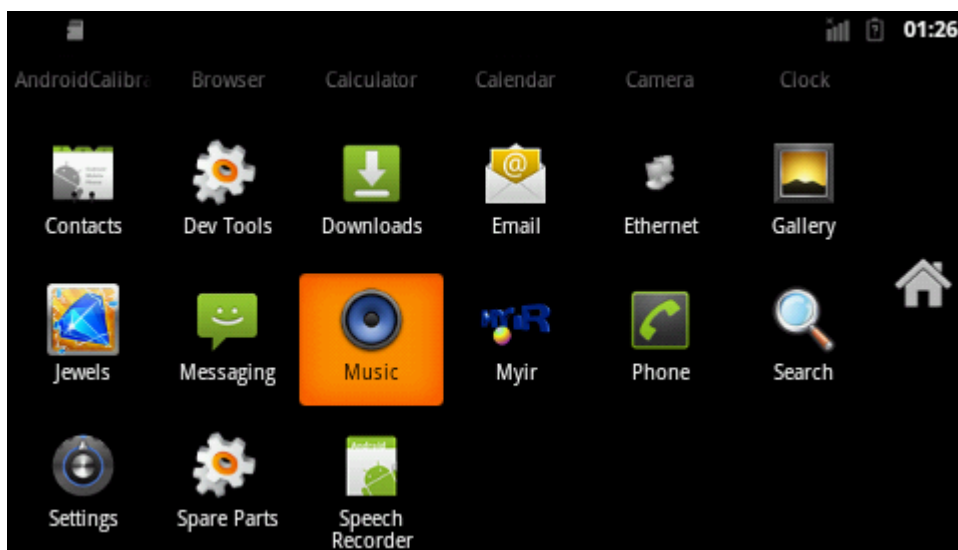

Figure 5-18
(1) Find and click marked Music figure. Refer to figure 5-18: